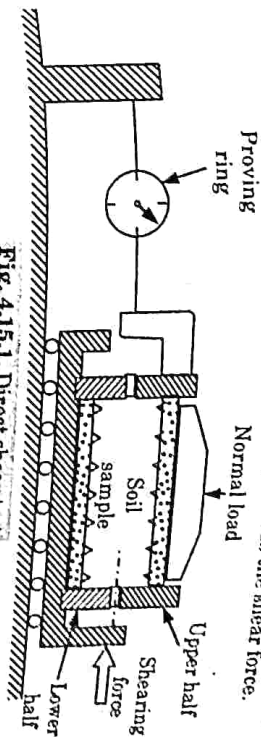

Fig. 4.15.1. Direct shear test.
- The apparatus consists of a square brass box split horizontally at the level of the center of the soil sample, which is held between metal grilles and porous stones as shown in Fig. 4.15.1.
- Vertical load is applied to the sample as shown in the Fig. 4.15.1 and is held constant during a test.